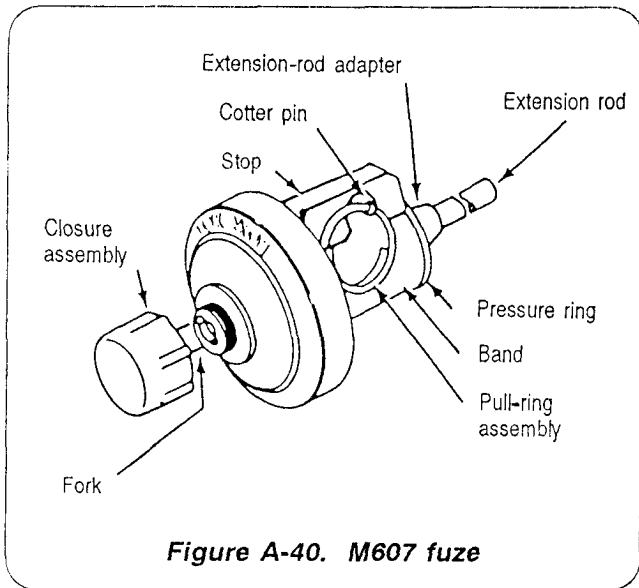

Figure A-40. M607 fuze
- b. Ensure the cotter pin of the fuze pull ring assembly and the fuze closure assembly are securely in place (Figure A-40).